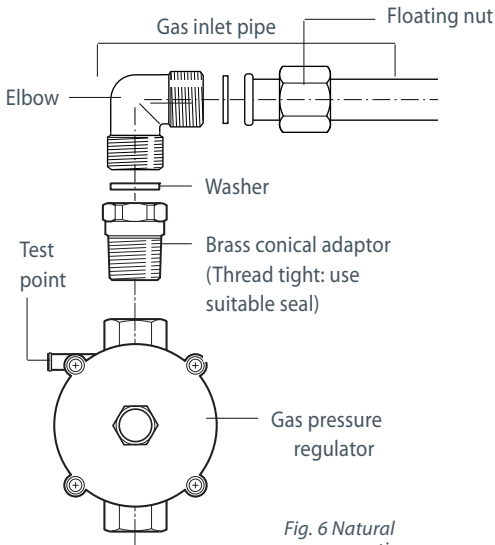

Fig. 6 Natural gas connection
- Before connecting the appliance to the gas supply, mount the brass conical adaptor onto the gas inlet pipe, upon which the washer has been placed (Figs. 6 and 7). Conical adaptor and washer are supplied with the appliance (packed with conversion kit for use with Natural gas or LPG).
- For Natural gas, connect the gas supply to the gas pressure regulator which is supplied with the appliance (Fig. 6). Adjust the regulator to obtain a test point pressure of 1 kPa with all the burners operating at the maximum.